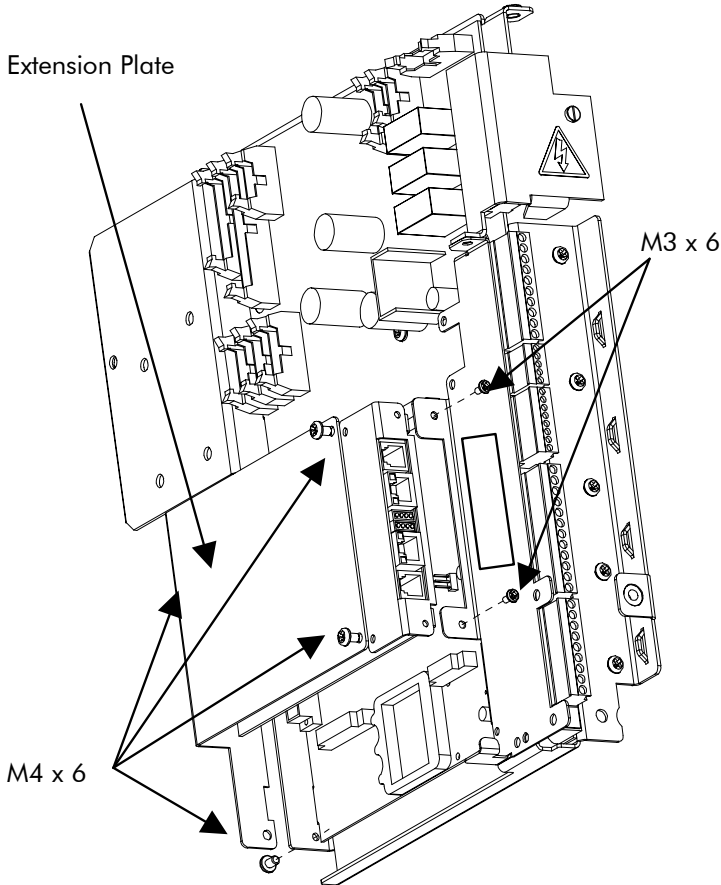

Figure 3-3 Drive module – fitting the Ethernet Interface Module
5. Fit the Ethernet Interface Module into the 96-way socket at the back of the CDC cassette, as shown in Figure 3-3. Secure it to the steel front plate with the two M3 x 6 screws provided.